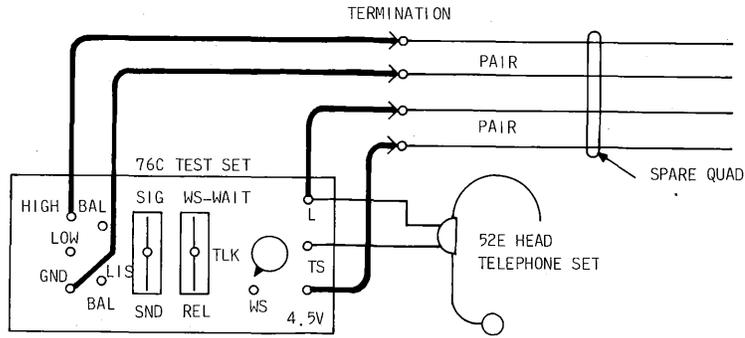

Fig. 23—Connecting Talk Set to Good Spare Pair
- 1 Select a good spare quad at the termination and connect the talk set as shown in Fig. 23.